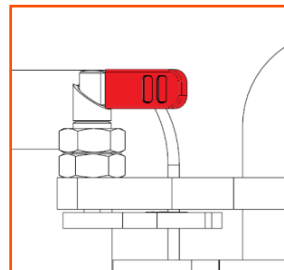

Figure 2 - ClickLock plunger locked
- ClickLock plunger (Figs 2 & 3).